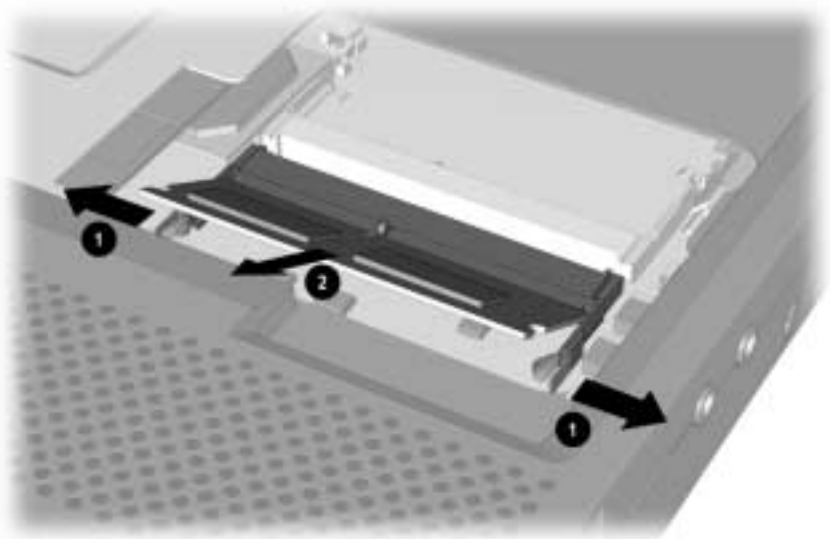

Figure 5-10. Removing a Memory Expansion Board
3. Spread the retaining tabs apart ❶. The memory expansion board tilts upward (Figure 5-10).
4. Lift the edge of the memory expansion board and slide it gently out of the memory expansion slot at a 45-degree angle ❷.